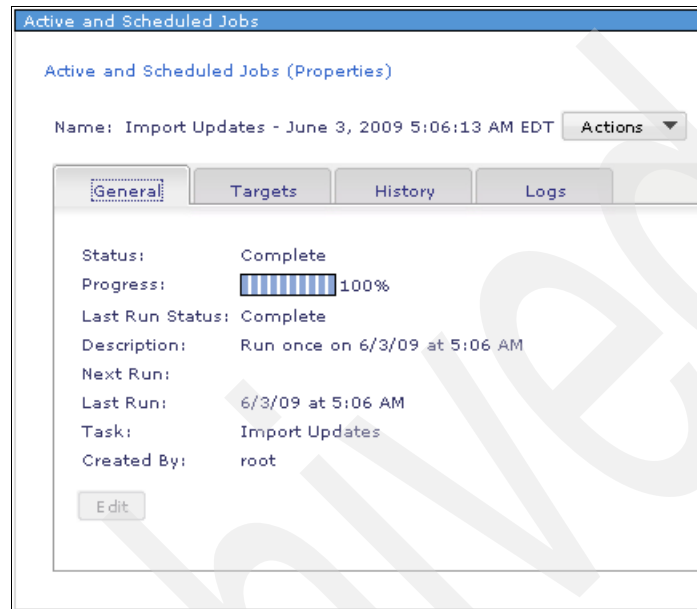

Figure 3-16 Status 100% Complete
10. In the Active and Scheduled Jobs window on the General tab, when the status bar shows Complete at 100%, as shown in Figure 3-16, confirm that the update shows no errors (Complete with errors). If errors occur, go to the Logs tab to see the errors.